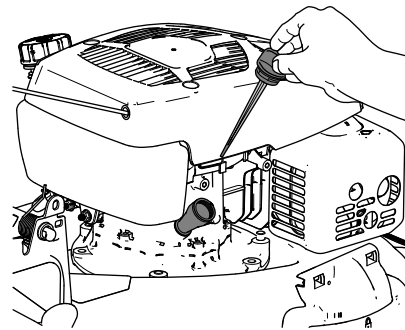

Figure 39
3. Remove the dipstick by rotating the cap counterclockwise and pulling it out (Figure 39).